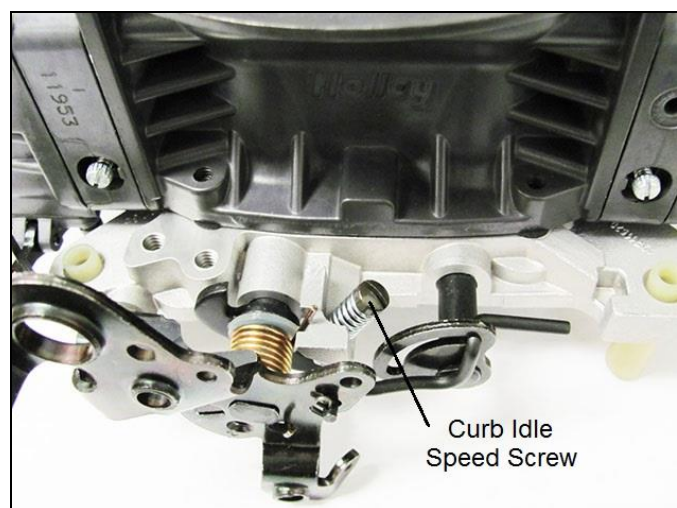

Figure 4
- Now that the idle mixture is set, it may be necessary to go back and reset the idle speed using the curb idle speed screw, as shown in **Figure 4**.